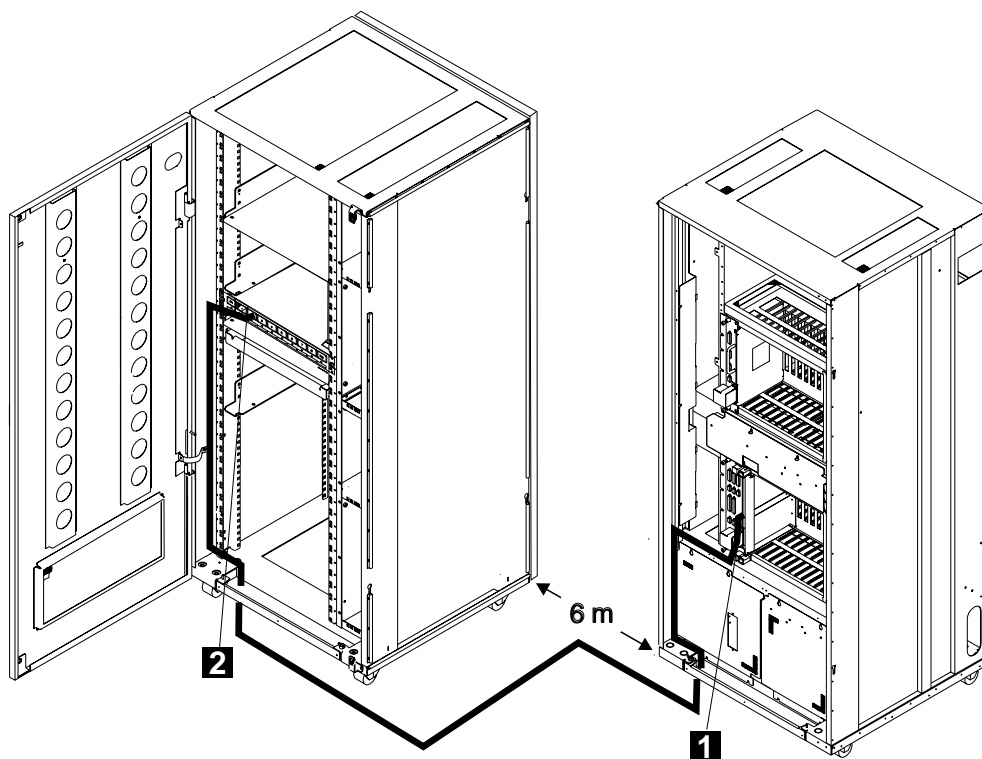

Figure 2-37. Connection of the 3746-900 to the 8228 (Controller Expansion detached)
- **Detached** from the controller expansion frame, refer to Figure 2-37 on page 2-32